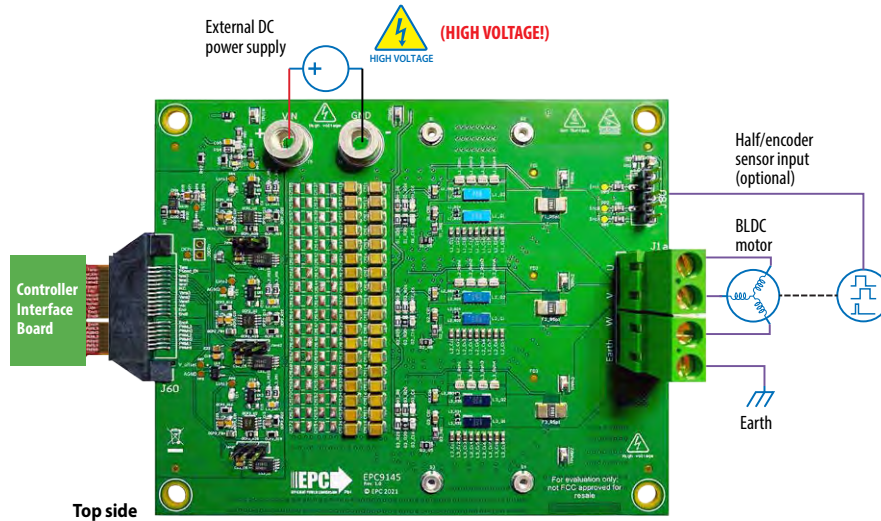

Figure 5: Connection diagram of the EPC9145 configured as a motor drive inverter
A 3-phase BLDC motor drive inverter is the primary application case for which the EPC9145 board was designed for and can be used for either sensor-less or shaft encoder sensor configurations. The motor drive controller options are given in table 2 giving the user various mainstream choices that leverage existing resources to simplify and speed up development and evaluation. Figure 5 shows the simplicity of connecting a controller and motor to the EPC9145. **In the default configuration, the EPC9145 is paired with the EPC9147C that is pre-programmed to power and control a NEMA 34 size motor from Teknic M-3411P-LN-08D, with DC supply voltage of 48 V using sensor-less field orientation control with space vector pulse width modulation (SVPWM).**
2. Connect the correct motor, whose parameters are programmed into the controller, to the EPC9145 at connector J1 and the DC power supply at connectors J5 and J6 (**Observe correct polarity, there is no inverse polarity protection on board**) and shown in Figure 5.